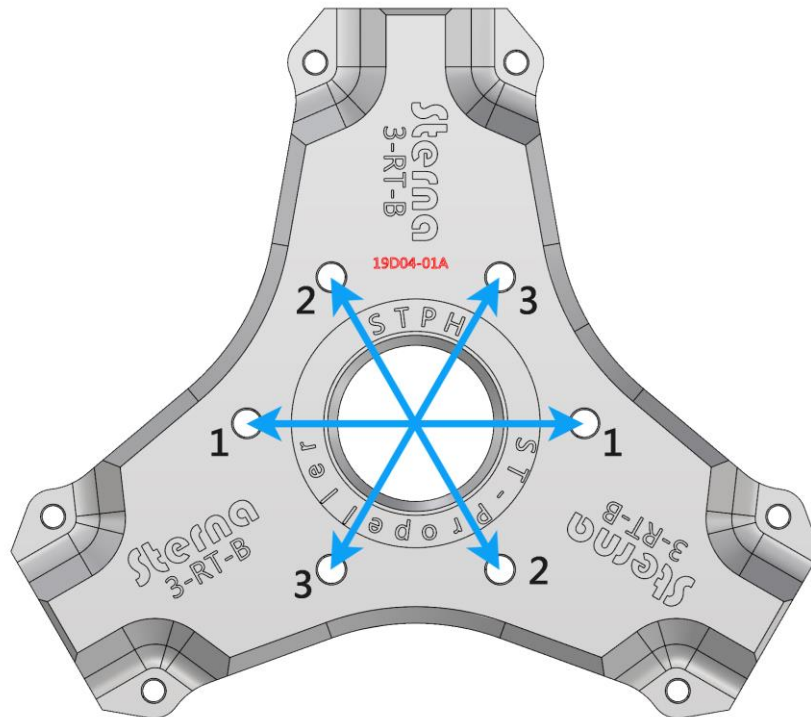

Figure 8: Use “Star Pattern” for tightening engine flange bolts
5. The blue pattern in **Figure 8** below is the tightening sequence for mounting the hub onto the engine flange. Tighten the two No. 1 bolts opposite of each other first, then tighten the two No. 2 bolts opposite of each other, finally tighten the two No. 3 bolts opposite of each other.